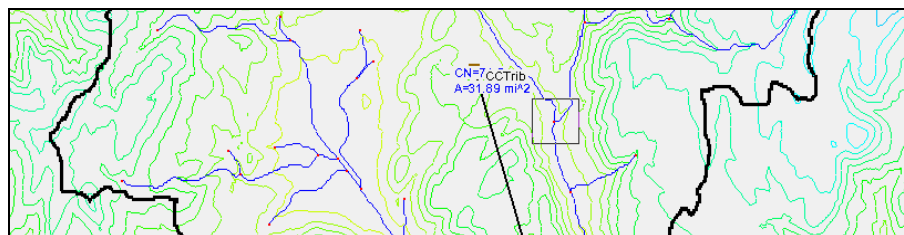

Figure 6 Zoom to the area indicated by the box near the center of the basin
7. **Zoom**  in to the area shown in Figure 6.